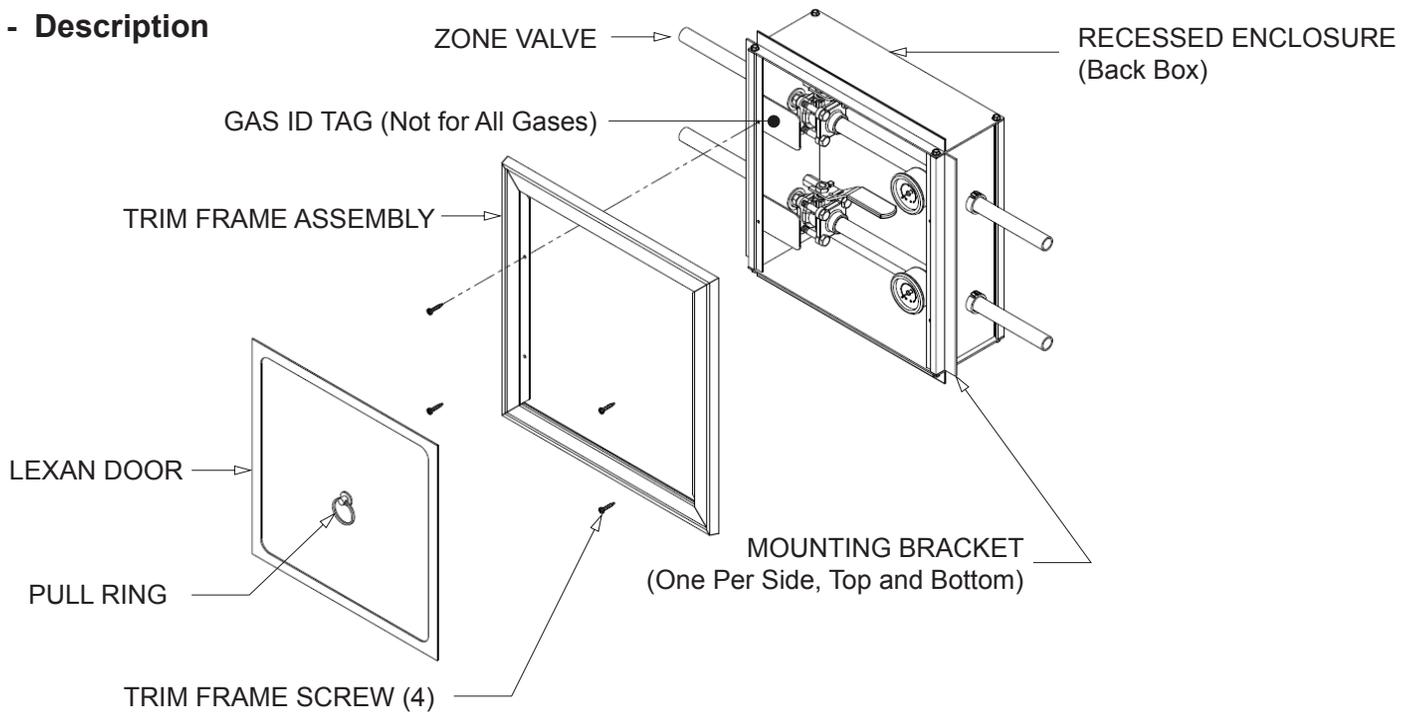

Figure 1 – Zone Valve Box Components
6.6 - Gas ID Tags: Gas ID tags has shown in Figure 1 are normally supplied with medical style ball valves. For high purity valves, "gas service (I.D.)" stickers are supplied for each valve.